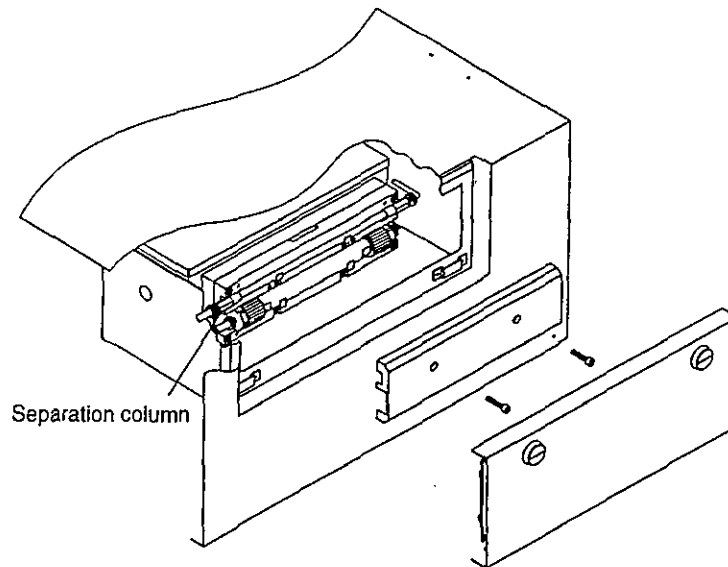

Figure 9.11 Removing the oven door and the front plate
- (2) Remove the oven door, and remove the front plate of the column oven. See Fig. 9.11.